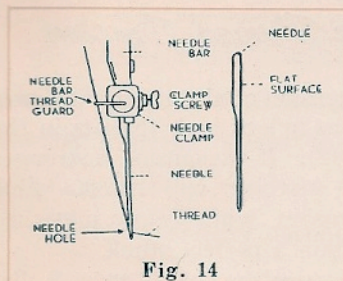

Fig. 14
2. Hold the needle in the left hand with the point down, and insert the needle up into the needle clamp as far as it will go, with its flat surface to the right; then re-tighten the clamp screw (Fig. 14).